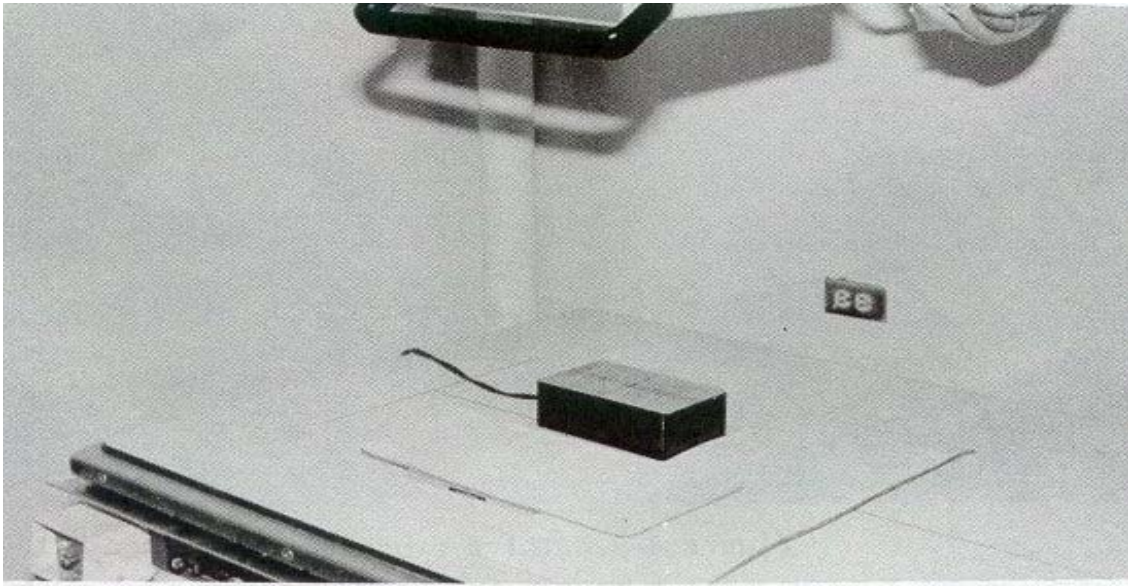

Figure 4-7. First of four exposures on the film being tested at 50 mA at 1/5 second.
- (1) Use four different times and mA.
- (2) Examples:
- (a) 50 mA at 1/5 second (see figure 4-7).